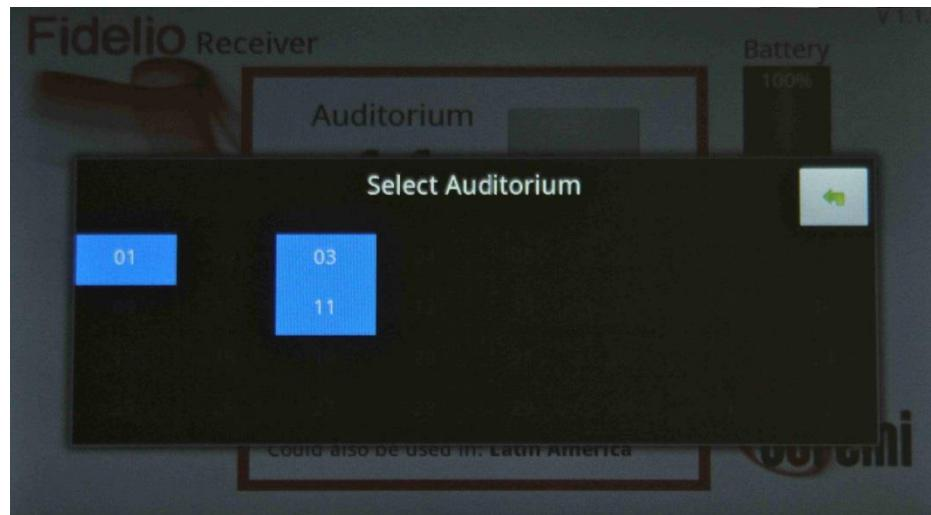

Figure 36: Receiver Auditorium Assignment Screen
- When you select the Auditorium Change button, you will be presented with a Select Auditorium screen that will display all theater numbers assigned to a Fidelio Transmitter. (Figure 36).